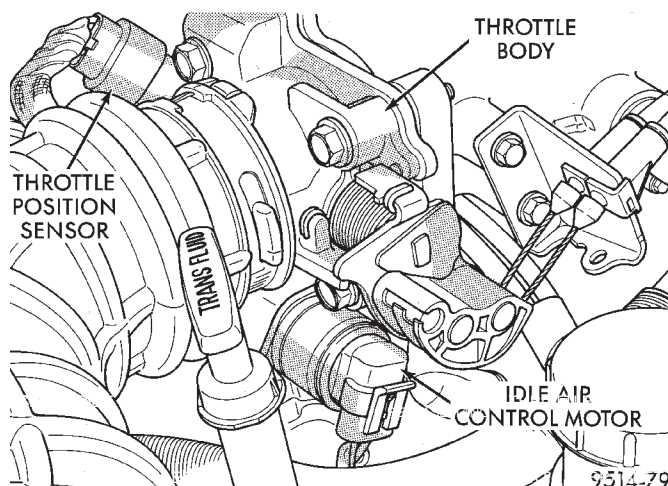
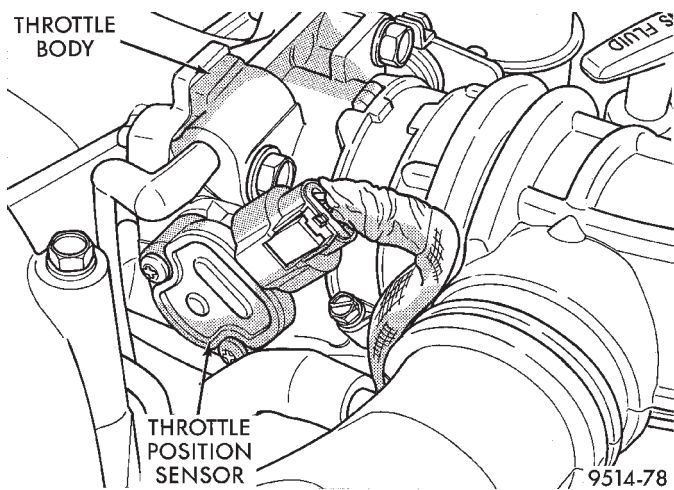

Fig. 24 Idle Air Control Motor
Fig. 23 Throttle Position Sensor
(9) Remove air cleaner cover and inlet hoses from engine.
(10) Unplug TPS and idle air control motor connectors (Fig. 23) and (Fig. 24).